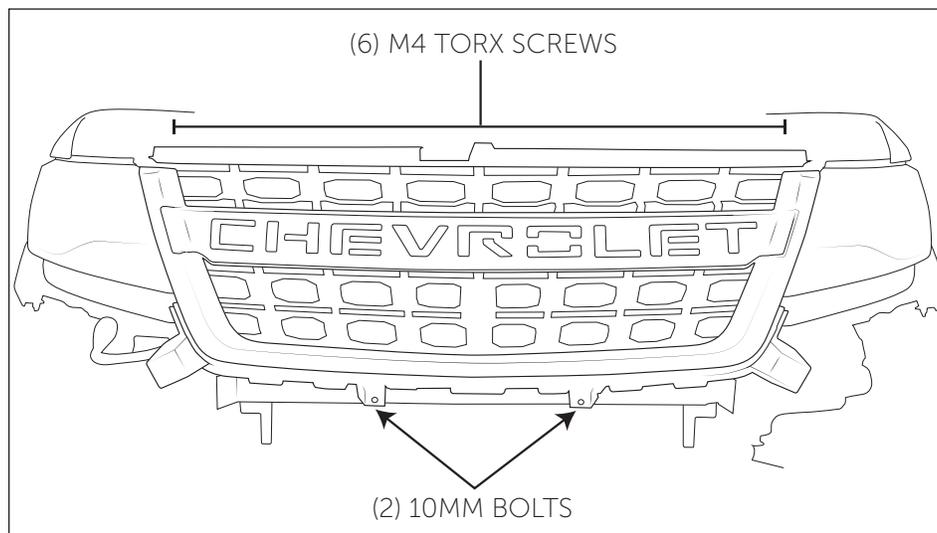

Figure 1
- B. Align top of grill and install the QTY 6 M4 torx head screws along top of grill (fig. 1).
- C. Use QTY 2 10mm bolts to fasten lower braces at bottom of the grill (fig 1).